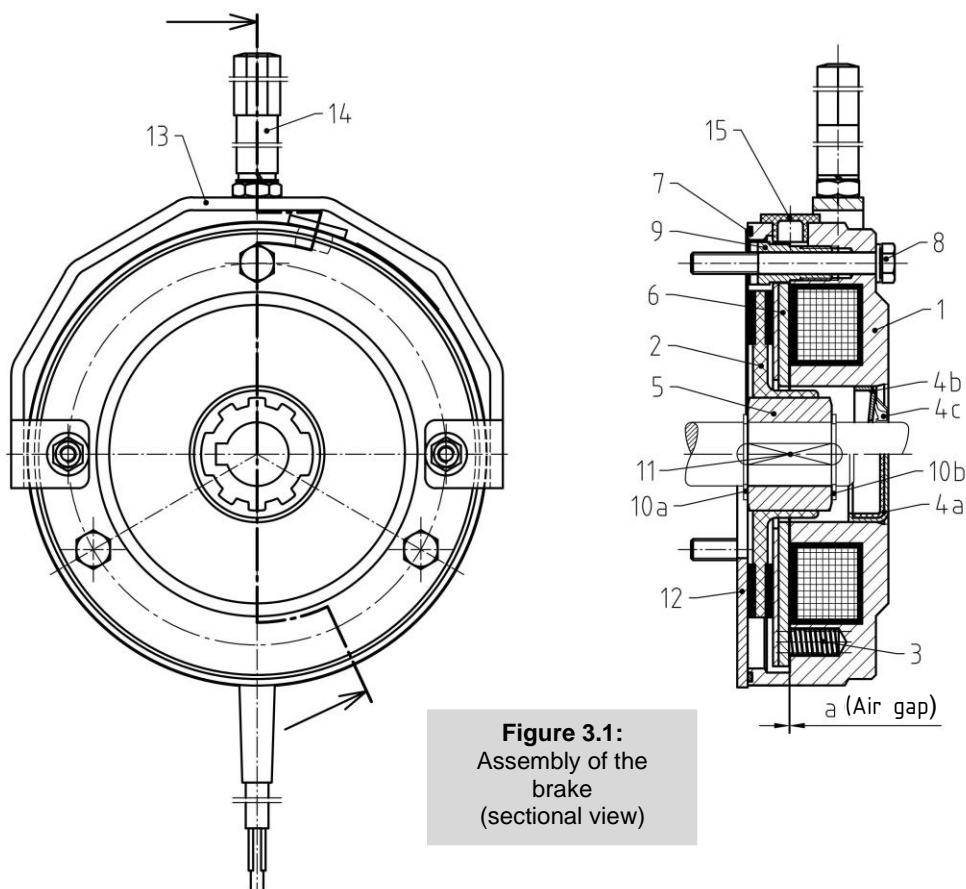

Figure 3.1:
- If the counter friction surface is supplied in the form of a flange (item **12**, **Figure 3.1**), this component - which lies directly on the motor end shield - is fixed there together with the brake (see also 3.1.3, 3.1.4 and Figure 3.1). The brake is sealed against the flange by means of an O-ring (item **7**) (analogous to the motor end shield for brakes without flange). **However, the flange itself contains no further sealing element and must be sealed with respect to its mounting surface.**
3.1.3 Hub and rotor (Figure 3.1)
3.1.4 Brake (Figure 3.1) ➔ for self-installation of the manual release, see 3.1.6 first
3.1.5 Sealing (Figure 3.1)
Ongoing operation requires no special measures without malfunctions. Only the **size of the air gap** (increasing because of the wear of the friction lining on the rotor) must be checked according to the following arrangement (see also: 4.1.3). In order to do this, temporarily remove the sealing plug (item 15, Figure 3.1) in the inspection hole. In case of malfunctions, proceed according to 4.2.